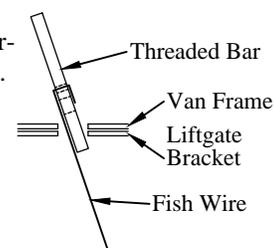

Figure 10: Threaded bar.
- 13. Insert** the supplied threaded bar, with fish wire, into the unthreaded hole in the cross member (Figure 10).
15. **Fasten** the front channel assembly to the frame using one (1) supplied 3/8 bolt and washer (Figure 10).